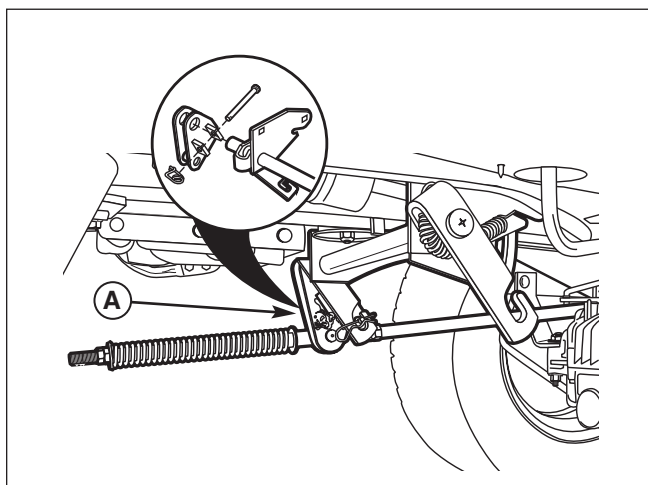

Figure 18. Lift Arm Extension
8. Remove the lift bracket (A, Figure 18) and lift rod.
9. Detach the tiller from the rear hitches (Figure 18).
3. Install the lift bracket (A, Figure 18).
5. **Manual Lift Models:** Raise the tiller. Install the lift assist spring assembly (A, B, Figure 18).